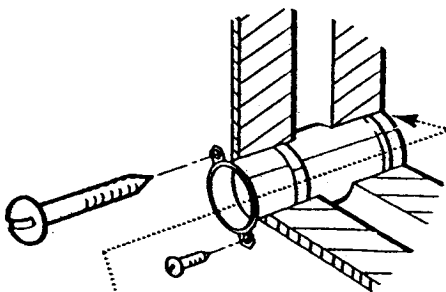

Fig. 67
9. Rotate liner back until the tags align with the holes drilled and secure it to the wall using suitable screws (Fig. 67).